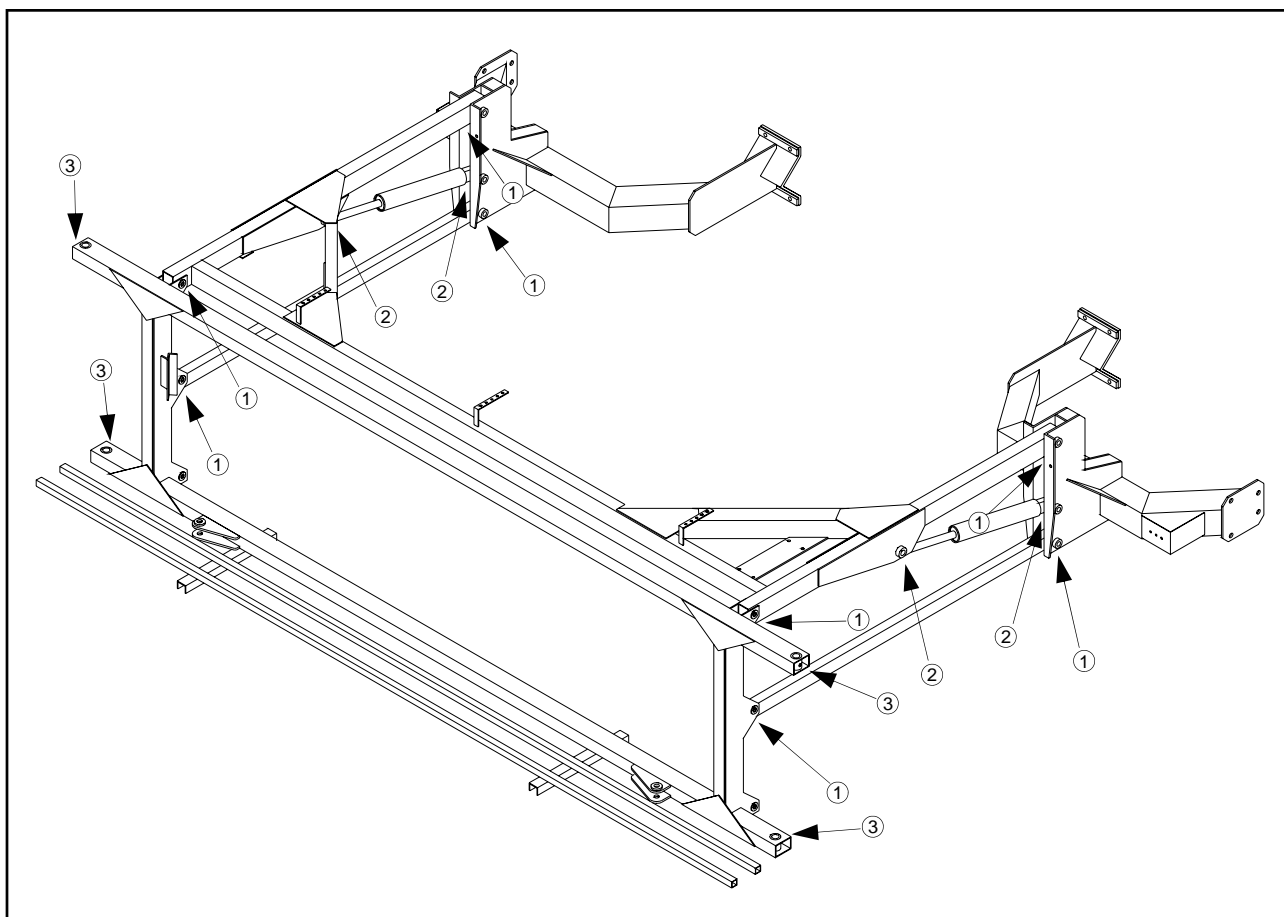

FIG 8.28
Lift arm lift pivots: eight places (fig. 8.28, items 1)
Lift cylinder pivots: four places (fig. 8.28, items 2)
Boom fold pivots on transom: four places (fig. 8.28, items 3)